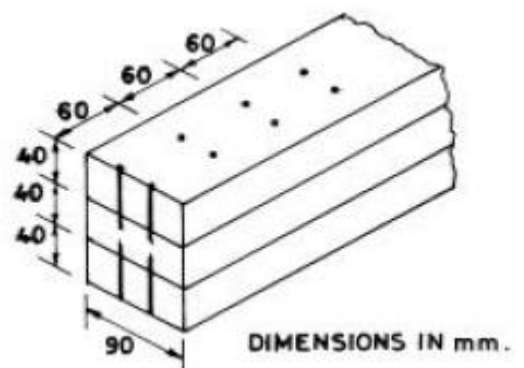

Fig. 2
2.	Find the maximum tensile and compressive stresses at the section a-a of an overhanging beam (Fig. 2).
3.	Three boards, ( Fig. 2 ) each of 40 mm x 90 mm rectangular cross-section are nailed together to form a beam which is subjected to a vertical shear force of 1 kN. Determine the shear stress at the junction of the two boards. If the spacing between each pair of nails is 60 mm, determine the shearing force in each nail.